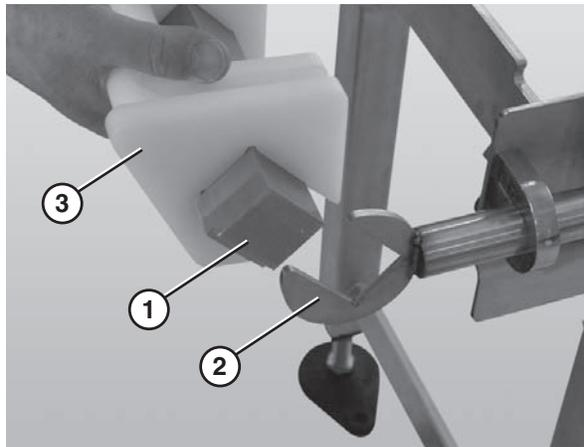

Figure 63
4. After all tracking pucks (Figure 63, item 3) are installed, slide the nose bar drive or transfer post (Figure 63, item 1) into the nose bar drive weldment or idler hands (Figure 63, item 2).